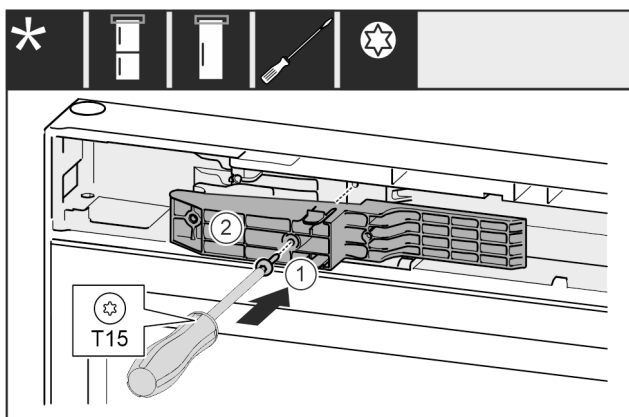

Fig. 51 *
- ▶ Insert adapter *Fig. 51 (1)* in the recess on the handle side.*
- ▶ Tighten screw *Fig. 51 (2)* with screwdriver.*